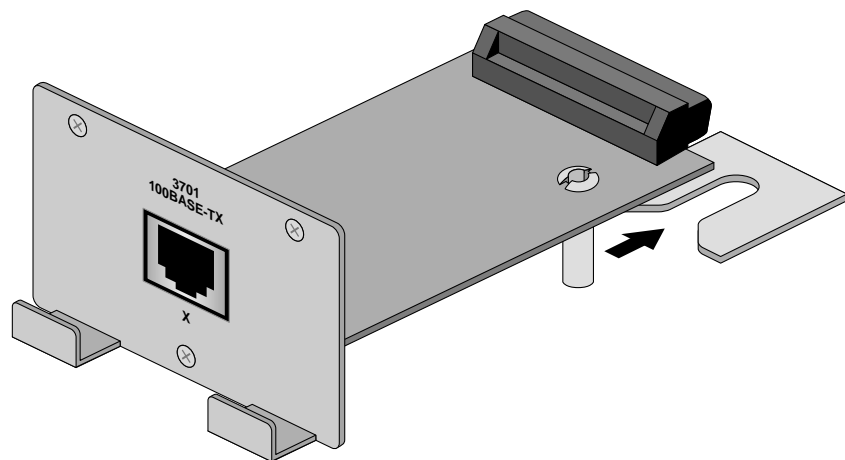
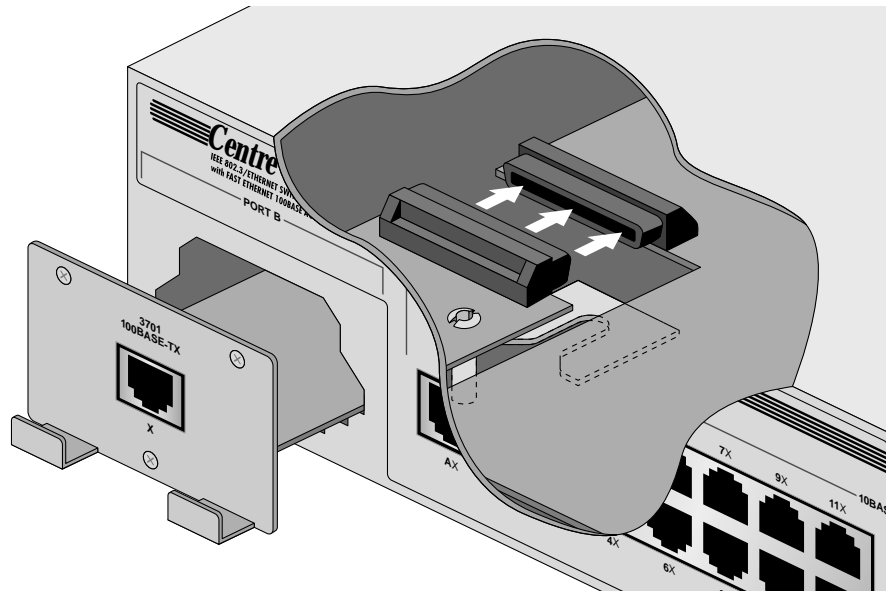

Figure 2-4 Guiding the MDA (AT-3701) Standoff into Its Slot
Figure 2-5 Connecting the 50-Pin Female Connector
3. The standoff on the MDA serves as a guide to slide the MDA correctly into its slot so that the MDA's 50-pin female connector attaches securely to the 50-pin male connector on the main board. See Figure 2-4 and Figure 2-5 when performing the next step.